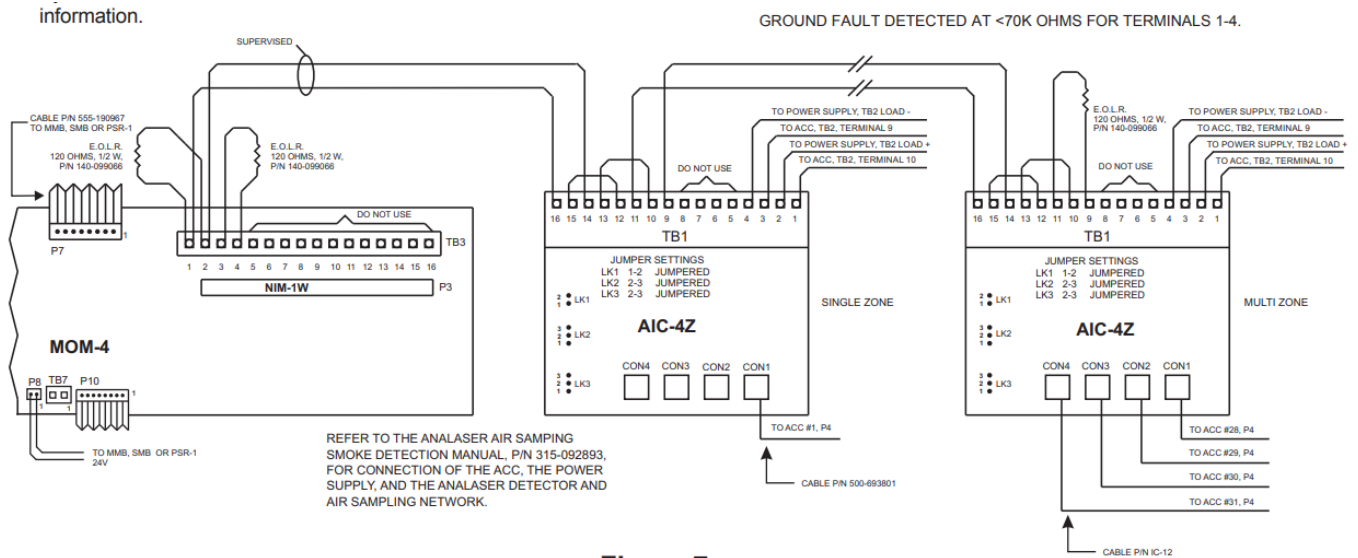

Figure 7
The AnaLASER Air Sampling interface connects to the MOM-4/2, TB3 or TB4, terminals 1 and 2, depending on where the NIM-1W is installed (Refer to Figure 7). Up to 31 Air Sampling detectors can be connected to a single NIM-1W.
Complete wiring of the converter as shown in Figure 7 before installing the ACC-1 in the enclosure.
- Place the end-of-line resistors in the locations specified in Figure 7.